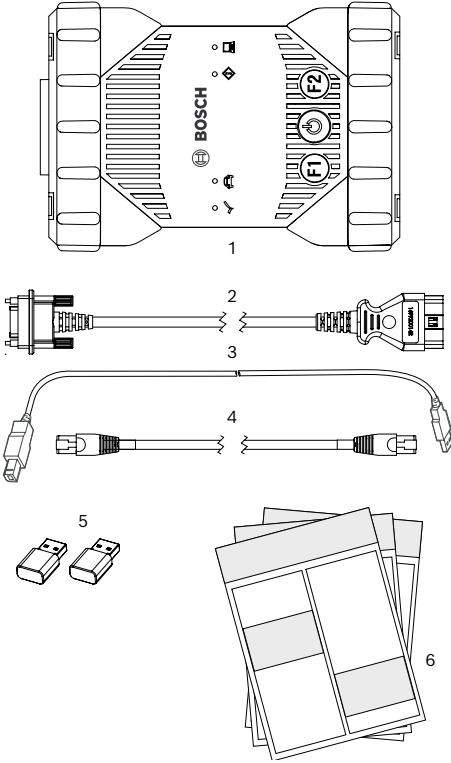

Fig. 1: Alcance de entrega (1a or 1b)
1. Connect the Mastertech II VCI (fig. 1 item 1) to the OBD connection of the vehicle using the OBD connecting cable (fig. 1 item 2).